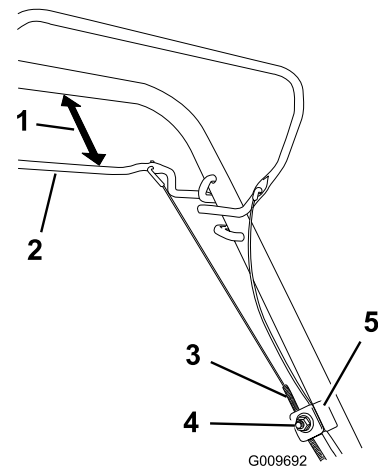

Figure 28
- Loosen the cable support nut (Figure 28).
- Hold the self-propel bail 1 to 1-1/2 inches (25 to 38 mm) from the handle (Figure 28).
- Pull down the cable jacket (toward the mower) until there is no slack in the cable (Figure 28).